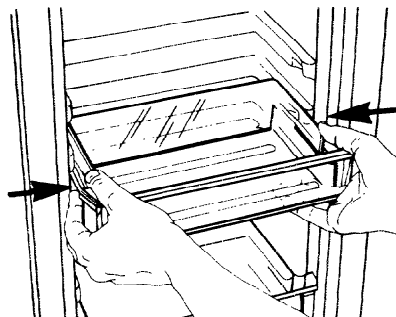

FIGURE 63
1. Take hold of bucket. See Figure 63.